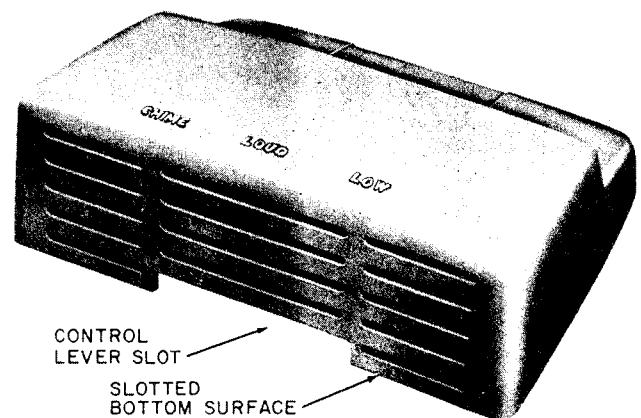

Fig. 2 — 125A Cover
2.02 The plastic cover (Fig. 2) is not supplied with the F1A ringer. Order separately as follows: